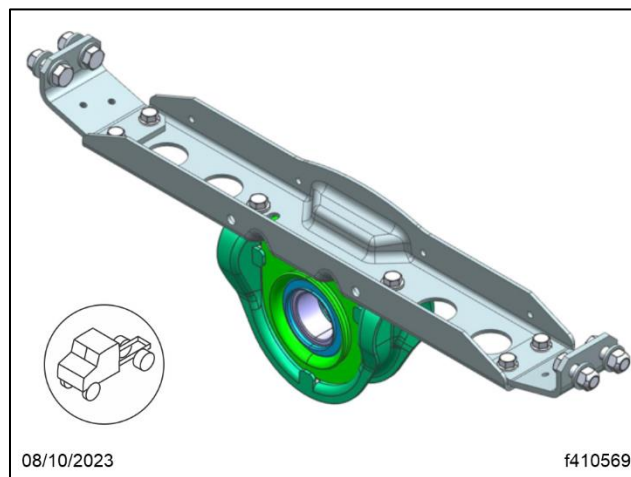
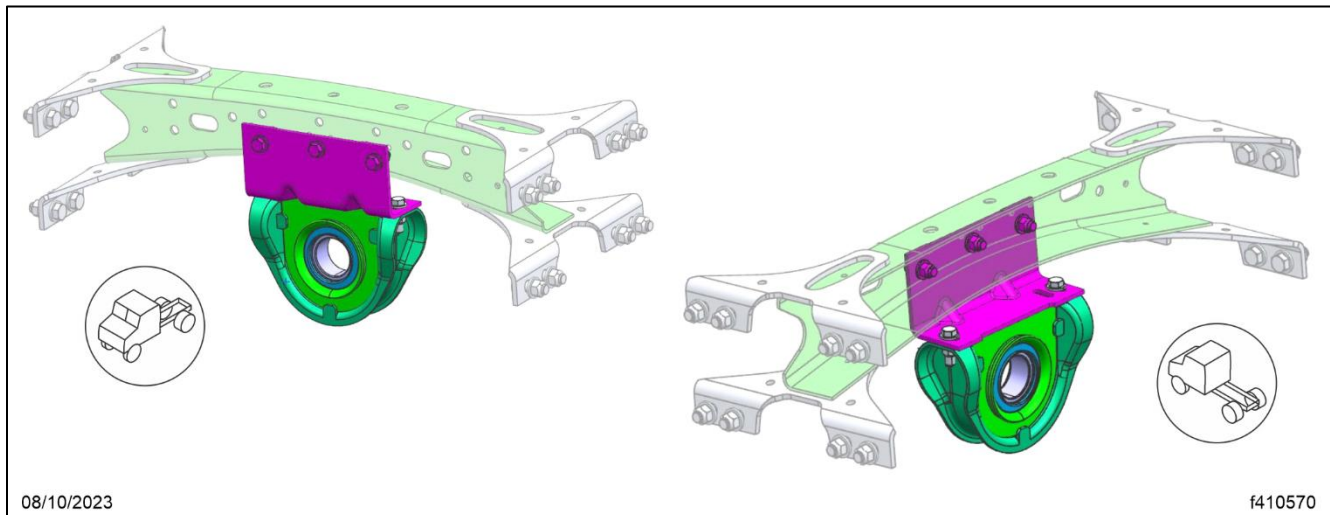

Fig. 1, Bearing Support without Spacer
Fig. 2, Bearing Support Rear Mounting with Large Bearing
4. Install the forward carrier bearing bracket (09-11769-000) at the driveline support bracket, and replace the existing bracket (09-11769-003) with the new bracket (09-11769-004) at the rear 567 crossmember location. See Fig. 1 and Fig. 2.